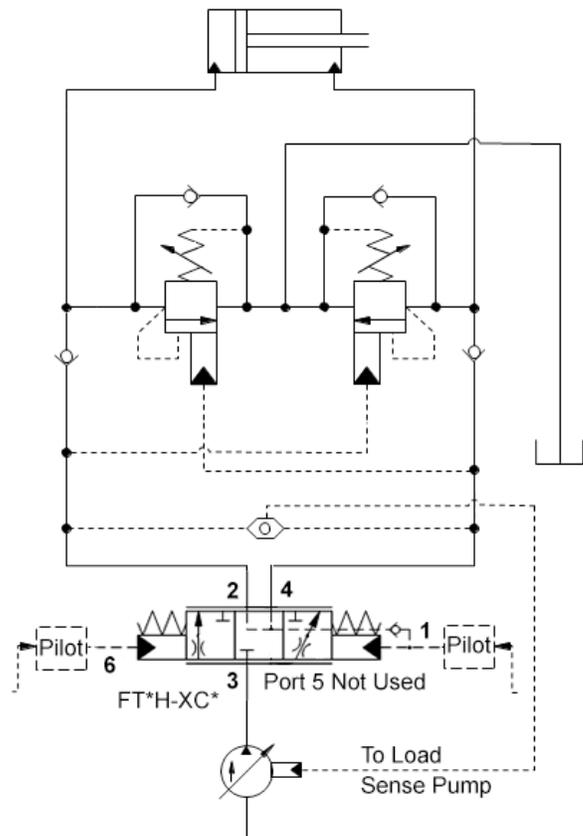

Figure 22
- **Figure 22** shows how the FT\*H is used in a typical cushion lock, load sense circuit.